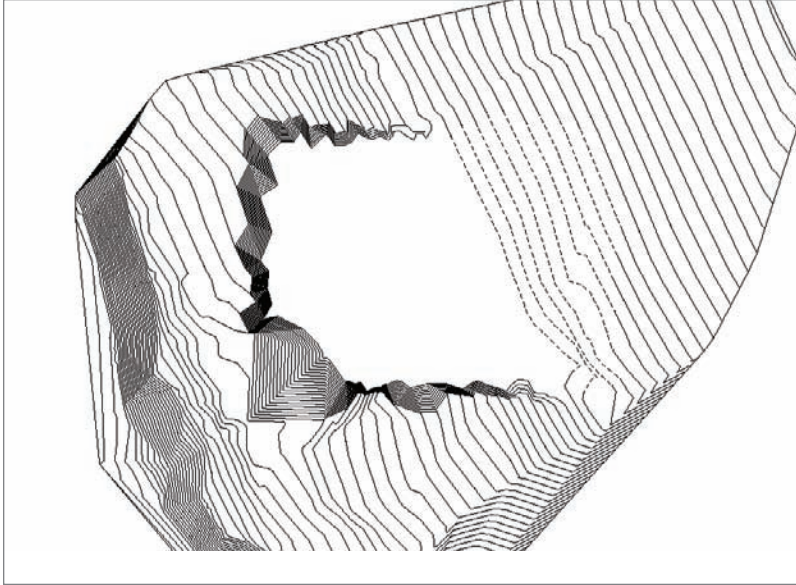

FIGURE 18.29 The site with cuts and fills
18. Verify that your site appears similar to Figure 18.29.